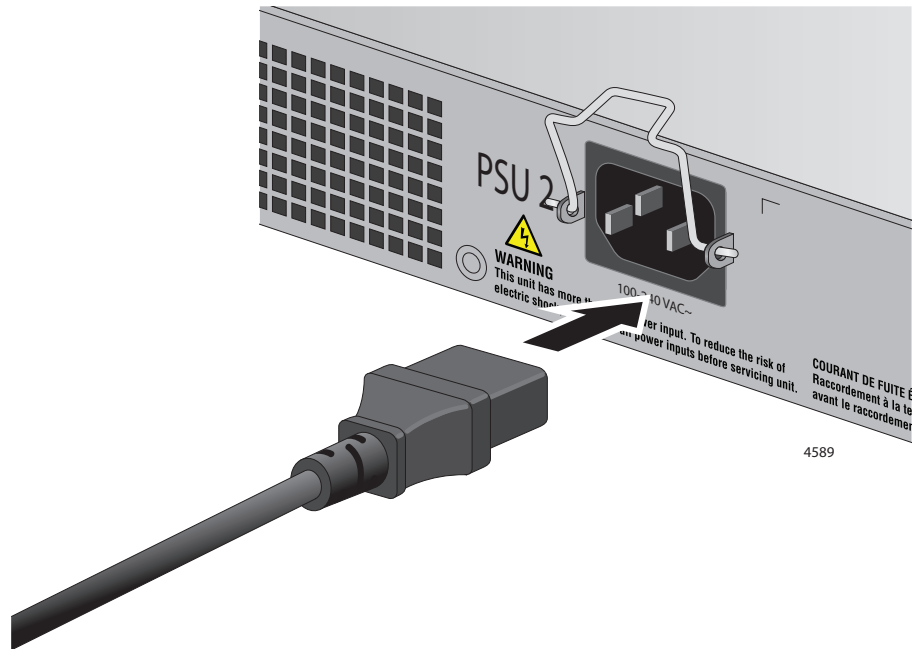

Figure 42. Connecting the AC Power Cords
2. Connect the AC power cords to the AC power connectors on the rear panel. Refer to Figure 42 on page 99.